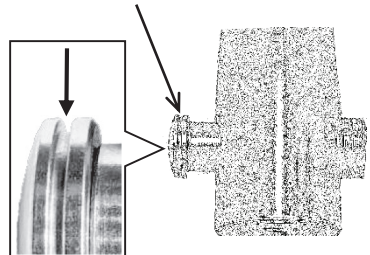

Fig.4
3. Slide the Switch Valve to "ON" **(Fig.4)**